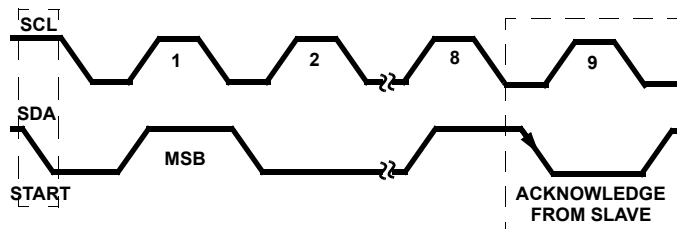

FIGURE 17. ACKNOWLEDGE ON THE I²C BUS
Each address and data transmission uses 9-clock pulses. The ninth pulse is the acknowledge bit (A). After the start condition, the master sends 7 slave address bits and a R/W bit during the next 8-clock pulses. During the ninth clock pulse, the device that recognizes its own address holds the data line low to acknowledge. The acknowledge bit is also used by both the master and the slave to acknowledge receipt of register addresses and data as described in Figure 17.